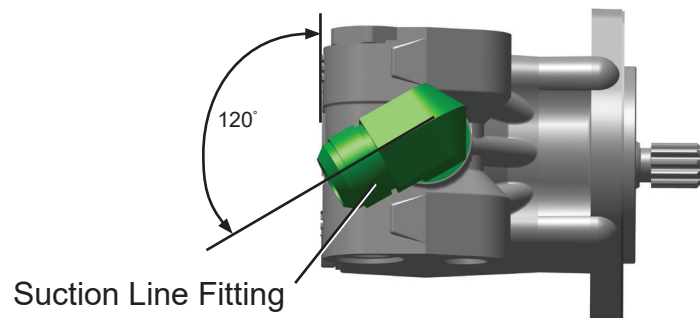

Figure 6
13. Install pump suction line 90° fitting in new pump (A000H951). Final tighten fitting to 93 ft. lbs. and orient fitting as shown in Figure 6.